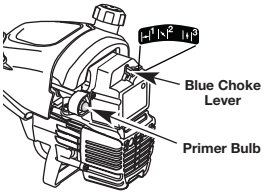

Fig. 6
2. Fully press and release the primer bulb 10 times, slowly. Some amount of fuel should be visible in the primer bulb and fuel lines (Fig. 6). If you can't see fuel in the bulb, press and release the bulb as many times as it takes before you can see fuel in it.
3. Place the blue choke lever in Position 1 (Fig. 6).
5. Place the blue choke lever in Position 2 (Fig. 6).
8. Once the engine is warmed up, place the blue choke lever in Position 3 (Fig. 6). The unit is ready for use.
IF... the engine hesitates, return the blue choke lever to Position 2 (Fig. 6) and continue warm-up.